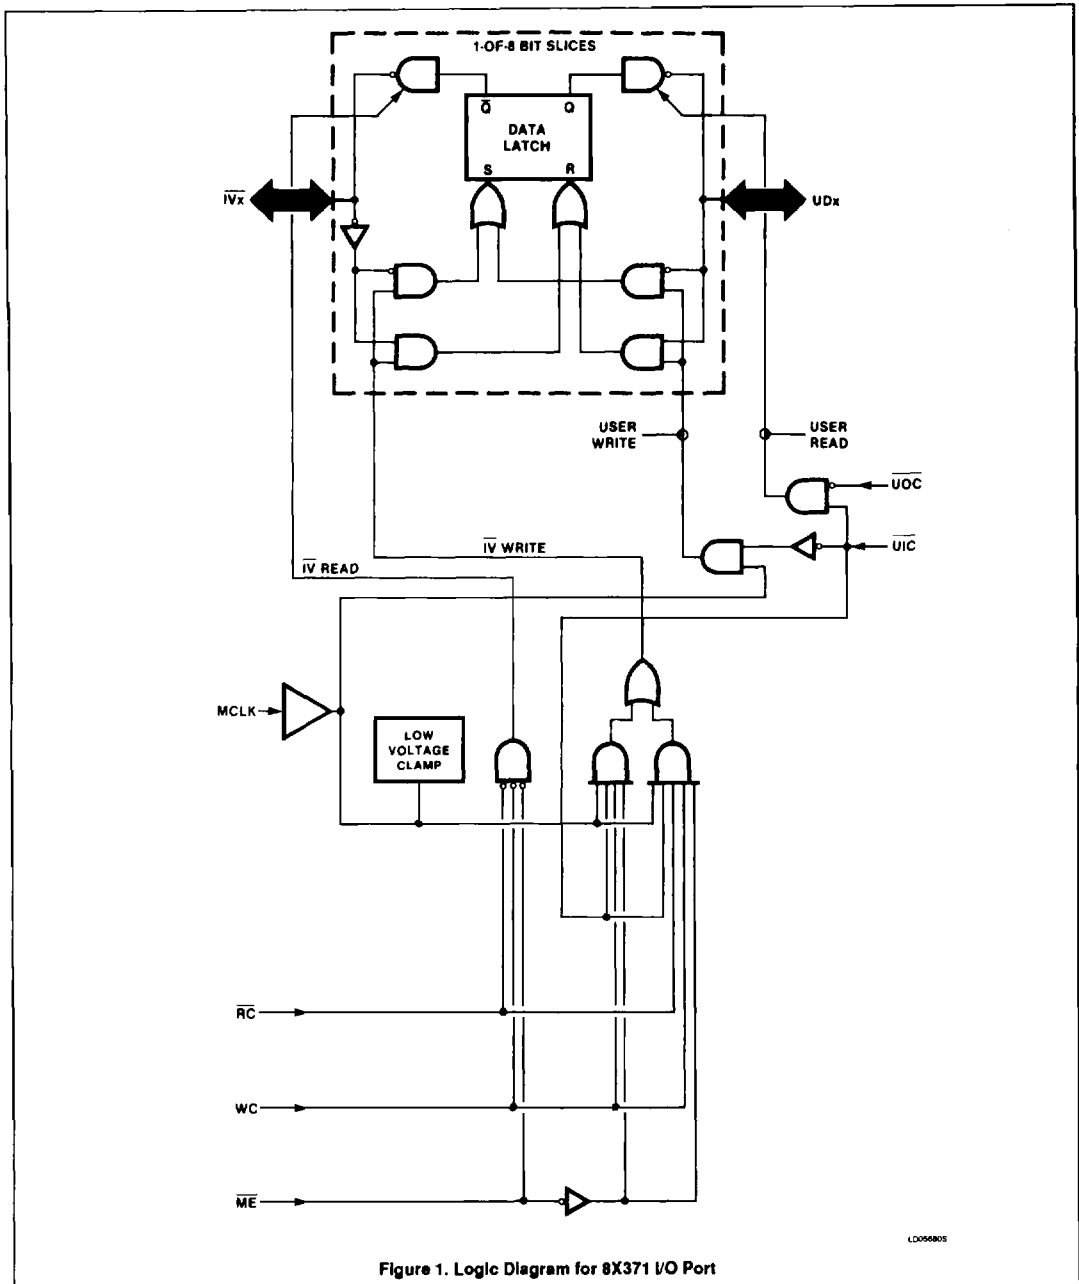

Figure 1. Logic Diagram for 8X371 I/O Port
The 8X371 I/O Port is a bidirectional device designed for use as an interface element in systems that use TTL-compatible busses. Typically, the 8X371 is used with the 8X305 Microcontroller and its associated Interface Vector (IV) bus; however, it can also be used with an equivalent microprocessor. As shown in the logic diagram of Figure 1, the 8X371 consists of eight identical data latches — bits 0 through 7. The latches are accessed from either of two 8-bit busses — the Microcontroller (IV bus) and the user data (UD bus). Separate controls are provided for each bus and both busses operate independently, except when both attempt to input data at the same time; in such situations, the user bus always has priority. A Master Enable (ME) input is available for additional control over the IV bus. The data latches are transparent, in that, while either bus is enabled for input, all input-data transitions are propagated to the other bus, if enabled for output.